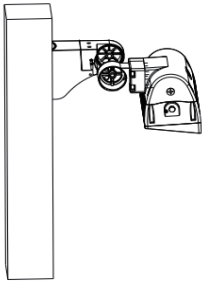

figure 4.1
Step 2 Finish the wiring connections according to the wiring diagram (L=Black, N=White, G=Ground) and then route the wires appropriately (figure 4.1).